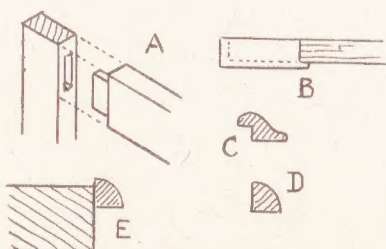

Fig. 2—Details of joints and moulding
detail (A) in Fig. 2. Make the joints a close fit, and well glued.
At the top and bottom, strips of $\frac{1}{2}$ in. wood are glued and pinned along. These overhang the front by $\frac{1}{2}$ in., also the ends. The outer pieces on the top should be cut away $\frac{1}{2}$ in. where they join the centre wider part, so that they extend that distance across at each inner end. This is explained at (B) Fig. 2, and will be noticed in the view of the completed board.